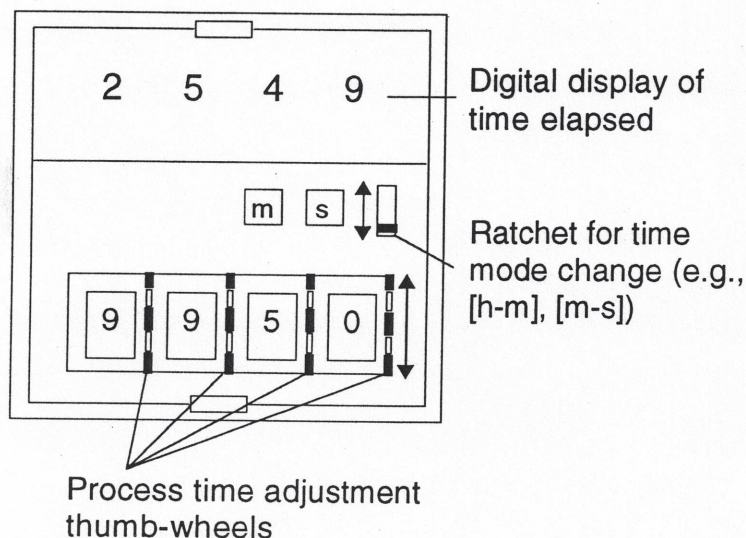

Figure 3.3. Process timer front panel.
- a. Fig. 3.3 shows the front panel of the process timer.